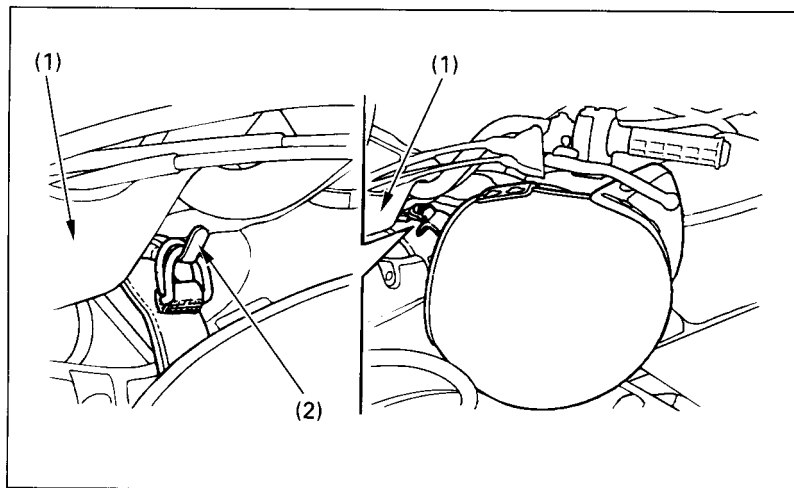

Fig. 2-25 (1) Handlebar cover
The helmet holder (2), (Fig. 2-25) is a bracket near the left side of the handlebar cover (1). To use the holder, hang the D-ring on your helmet strap over the bracket. Use the helmet holder only when the FOURTRAX is parked.